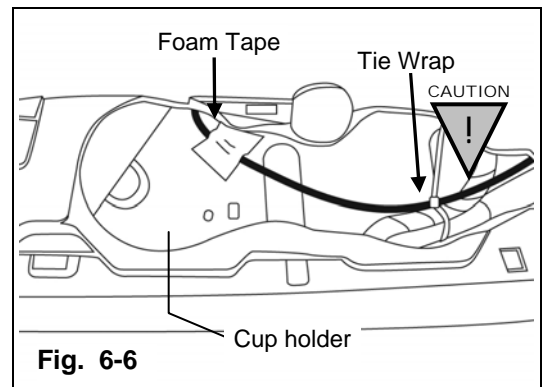

Fig. 6-6
6. Route video cable toward D-pillar, securing with one (1) tie wrap to existing OE harness and one (1) piece of foam tape. (Fig. 6-6)